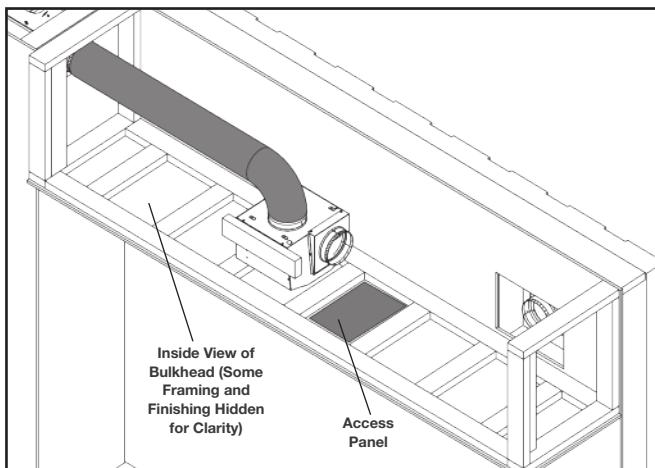

Fig. 3
- Attach the hot air exhaust assembly to the exterior wall by securing the wall flashing with appropriate fasteners (not supplied) **(Fig. 3)**.
3. Install 6" steel ducting (not supplied) from the appliance enclosure to the blower housing assembly inlet (Fig. 3).
8. If applicable, remove the 4 screws securing the inline cover assembly and set them aside (**Fig. 3**). Remove the inline cover assembly and set it aside.
17. Install/reinstall the inline cover assembly using 4 screws (supplied) (**Fig. 3**).